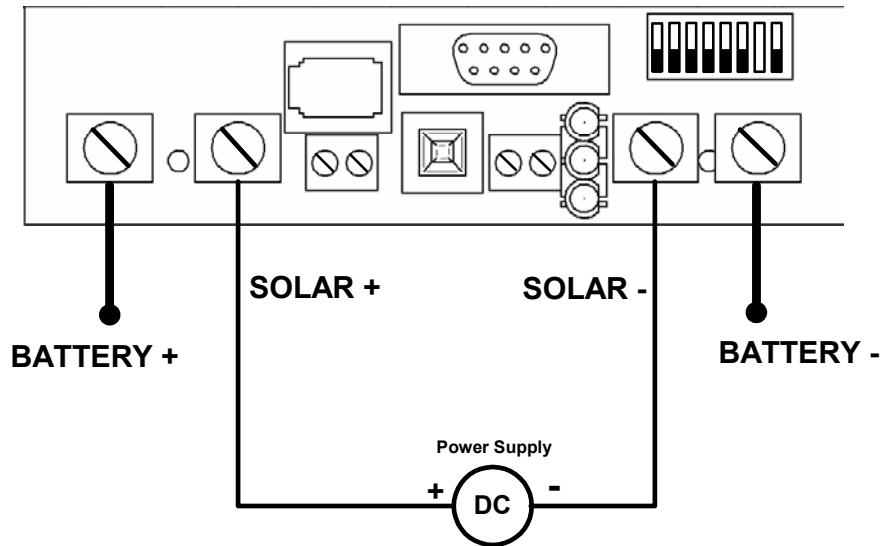

figure 2.
1. Adjust the DIP switches as shown in figure 2. DIP 1-6 & 8 should be in the “OFF” position as shown. It does not matter which position DIP 7 is placed.